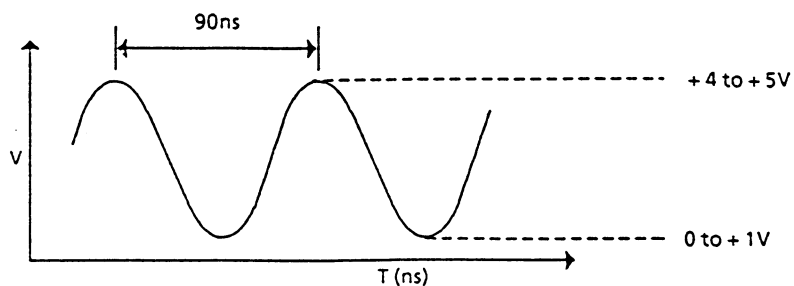

Figure E-4
- Is the OSC oscillation waveform as specified in Figure E-4?